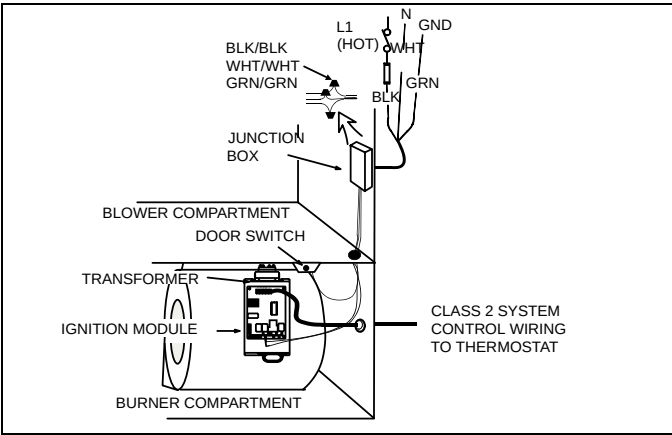

FIGURE 8: Electrical Wiring
2. Remove the screws retaining the wiring box cover. Route the power wiring through the opening in the unit into the junction box with a conduit connector or other proper connection. In the junction box there will be three wires, a Black Wire, a White Wire and a Green Wire. Connect the power supply as shown on the unit-wiring label on the inside of the blower compartment door or the wiring schematic in this section. The black furnace lead must be connected to the L1 (hot) wire from the power supply. The white furnace lead must be connected to neutral. Connect the green furnace lead (equipment ground) to the power supply ground. An alternate wiring method is to use a field provided 2" (51 mm) x 4" (102 mm) box and cover on the outside of the furnace. Route the furnace leads into the box using a protective bushing where the wires pass through the furnace panel. After making the wiring connections replace the wiring box cover and screws. Refer to Figure 8.